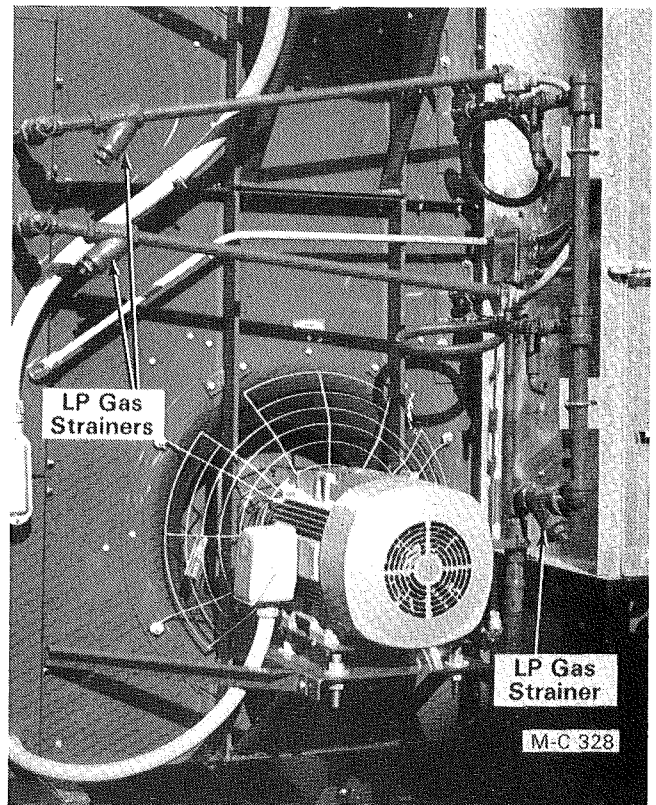

Figure 44 - LP Gas
7. **LP Gas** - Remove the plug at the end of each strainer, see Figure 44. Remove and clean the screen in each strainer. Check flexible LP hoses for signs of fatigue, replace as necessary.